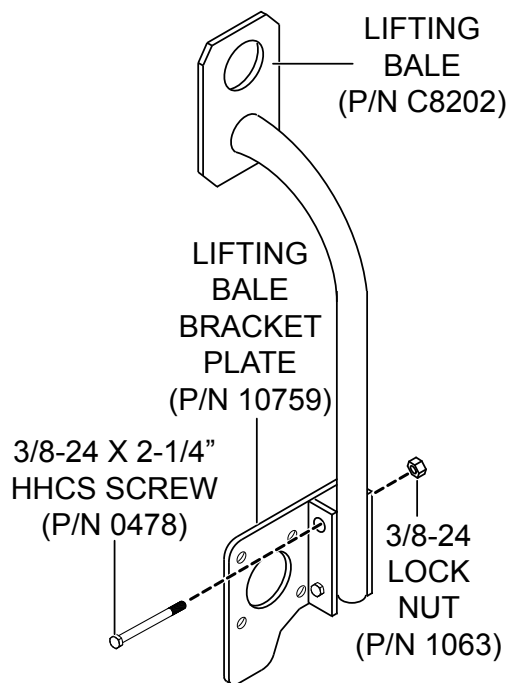

Figure 5. Lifting Bale Assembly
2. Using a 9/16" open-ended wrench, secure the lifting bale and lifting bale bracket plate together (Figure 5) using two 3/8-24 x 2-1/4" HHCS screws (P/N 0478) and 3/8-24 lock nuts (P/N 1063).